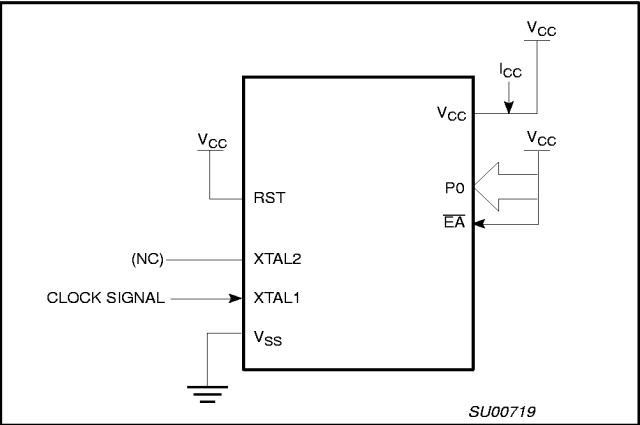

Figure 22. I_{CC} Test Condition, Active Mode
- See Figures 22 through 25 for I_{CC} test conditions.